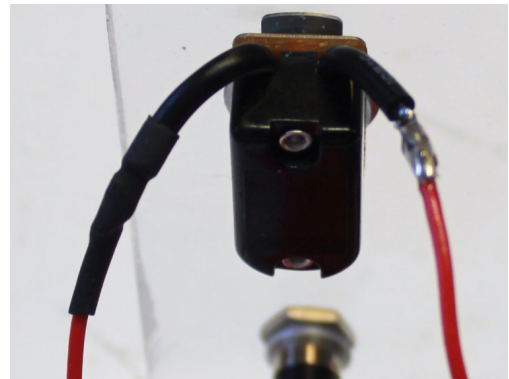

Figure 35
35. Now find the red wire soldered to hole b15. Strip the free end of this wire and solder to the other heavy wire of the power switch as seen in Figure 35.